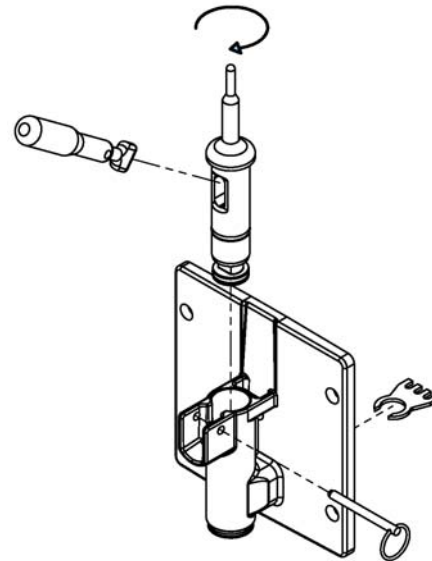

Figure 3-5 Spigot and Ice Breaker Bar Removal
- I. Turn spigot body until the ice breaker bar can be removed. Remove breaker bar (Refer to Figure 3-5).